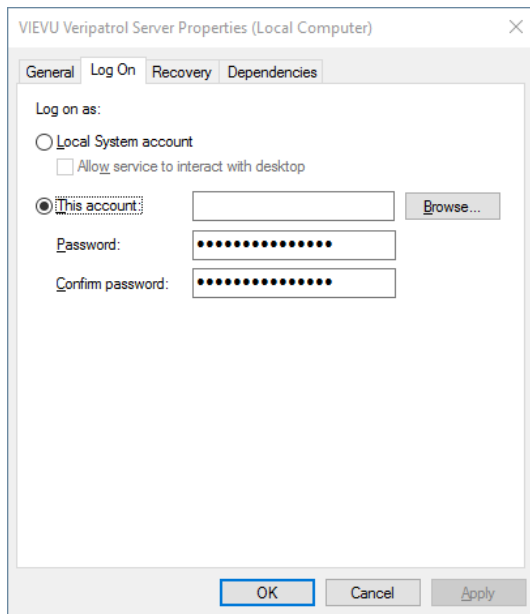

Figure 8
7. Change **Log on as:** from **Local System** account to **This Account** (Figure 8).